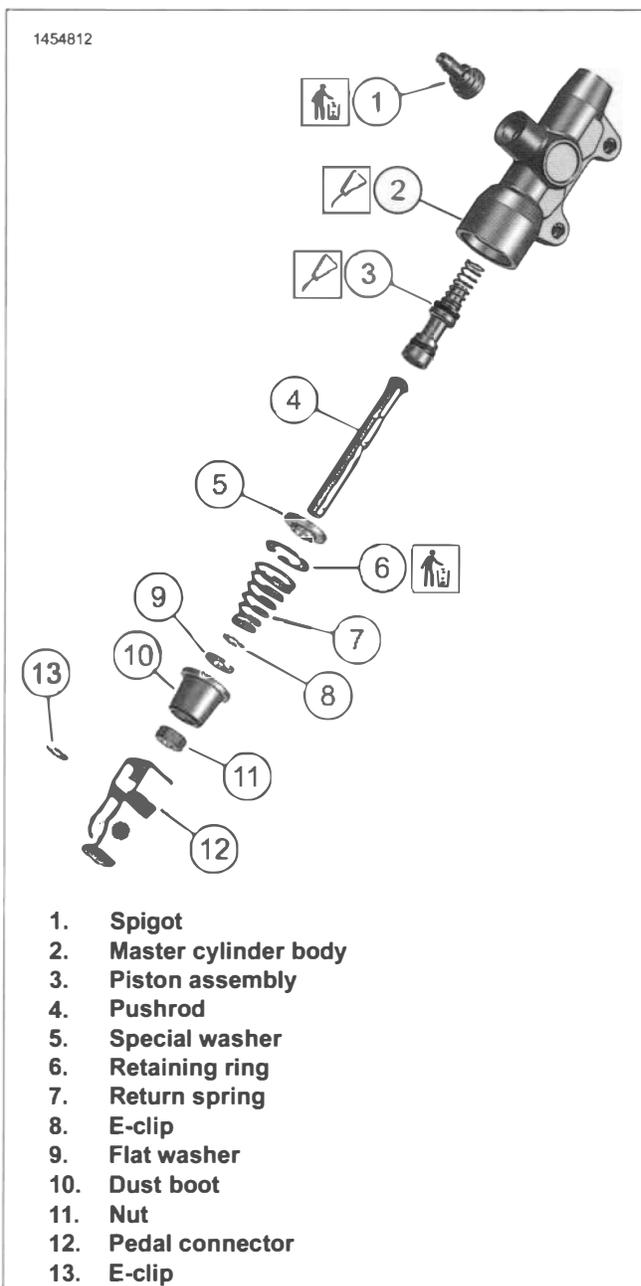
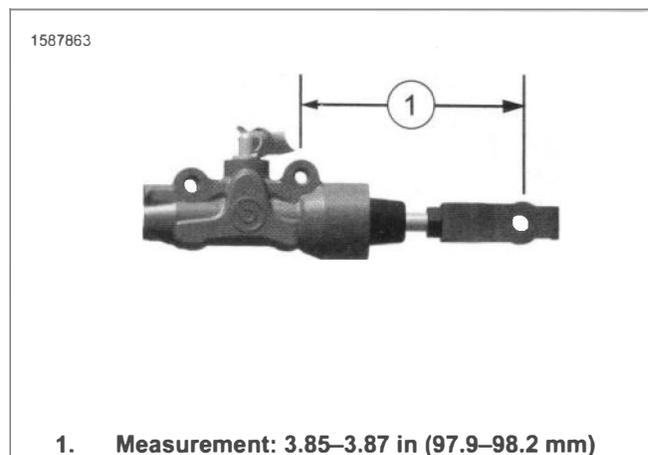

Figure 3-30. Master Cylinder Assembly
Figure 3-31.
1. See Figure 3-30. Remove pedal connector.
- a. Remove E-clip (13).
- b. Remove pedal connector (12).
- c. Remove nut (11).
2. Remove dust boot (10).
- a. Remove flat washer (9).
- b. Push and hold return spring (7).
- c. Remove E-clip (8).
2. See Figure 3-30. Press **new** spigot (1) assembly into master cylinder body (2).
3. Insert piston assembly (3) into piston bore.
4. Slide special washer (5), with collar facing outer end of pushrod (4), and **new** retaining ring (6) over pushrod.
- a. Seat return spring (7) on retaining ring.
- b. Compress return spring and install E-clip (8) in inboard groove of pushrod.
- c. Slide flat washer (9) over pushrod.
7. Install dust boot (10).
8. Install nut (11) on pushrod.
- a. See Figure 3-31. Install pedal connector (12) on pushrod to measurement.
- c. See Figure 3-31. Install E-clip (13) in outboard groove of pushrod.